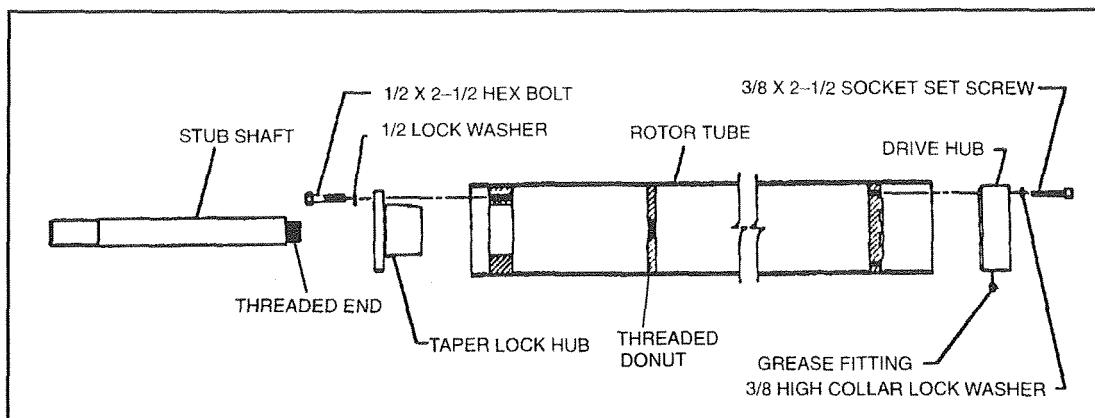

Figure 46. Stub Shaft Assembly
2. Remove three 1/2 x 2-1/2 hex bolts in taper lock hub and re-install bolts in three threaded holes (see Figure 46).